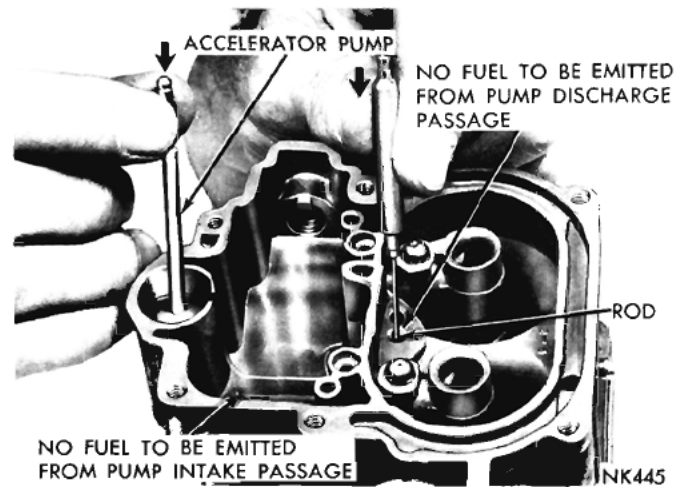

Fig. 13—Testing Accelerator Pump Intake and Discharge Check Balls
(1) Pour clean gasoline into the carburetor bowl, approximately  $1/2$  inch deep. Remove the accelerator pump plunger from the jar of gasoline and slide it down into the pump cylinder. Raise the plunger and press lightly on the plunger shaft to expel the air from the pump passage.
(2) Using a small clean brass rod, hold the discharge check ball firmly down on its seat. Again raise the plunger and press downward. No fuel should be emitted from either the intake or discharge passage, as shown in (Fig. 13).
(3) If any fuel does emit from either the intake or discharge passages, it indicates the presence of dirt or an imperfect check ball seat. The passage should be recleaned and then thoroughly blown out with compressed air. Examine the check ball seat for signs of damage that would not allow the ball to seat properly.
(4) Reinstall check ball and test again. If still leaking, place a piece of drill rod down on ball and rap sharply with hammer. Remove the old check ball and install new ball. Then retest. (This operation forms a new ball seat in the carburetor casting.)